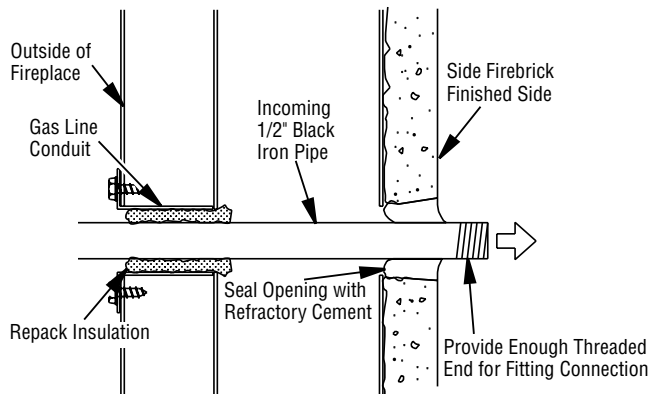

Figure 37 - Gas Line Installation
3. Run a 1/2" black iron gas line into fireplace through the rear at gas line conduit sleeve (if using a raised platform, add height). Provide sufficient gas line into fireplace chamber for fitting connection (see Figure 37).